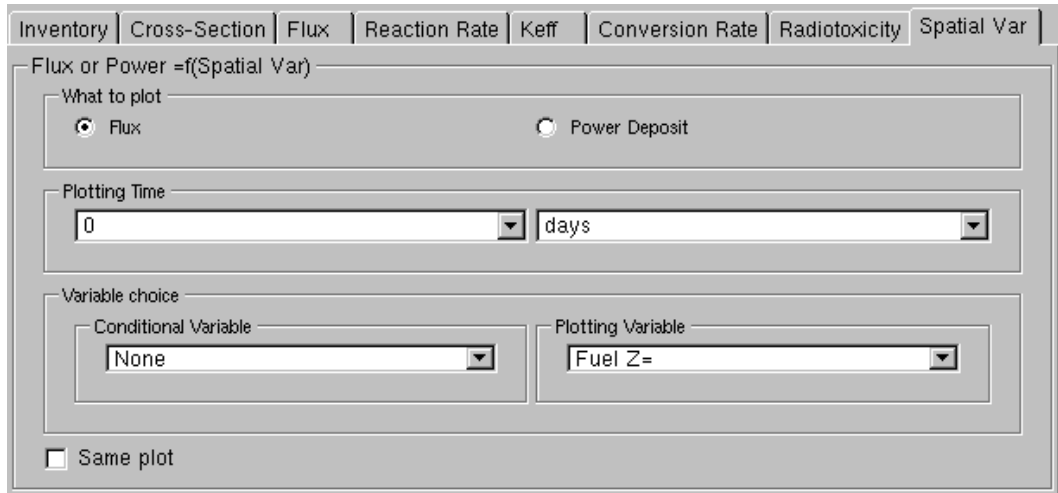

Figure 8.6: Spatial Var Tab - This will plot the flux as a function of Z for $t = 0$ whatever the spatial variables (no condition).
- The “*Spatial Var*” tab allows the plotting of spatial flux (or power deposit) dependence if you have defined spatial variables (see the *Cell* class and next paragraph). **It is present only if Spatial variables have been defined.** The “*Plotting Time*” frame allows user to select the time at which the plot is done. The “*Variable choice*” frame allows user to select what to plot (in the “*Plotting Variable*” combo box) and with, eventually, a condition on spatial variables (“*Conditional Variable*” combo box). For example, if a core has been divided in N radial zone and M axial zone, you can plot the mean flux as a function of Z for every radial zone (see figure 8.6). One can also plot this flux but only for a given radial zone by selecting the desired “ring” in the “*Conditional Variable*” combo box. The “Same Plot” check button, allow users to overlap plots.